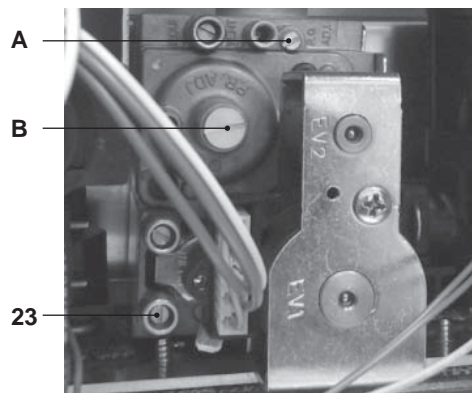

Fig. 7.6
- When the boiler is switched off (out of order), check the supply pressure by using the 23 point in Fig. 7.6 and compare the value read with that reported on the Gas supply pressure table in section "Technical data Activ A 120V" to page 24, section "Technical data Activ A 150V" to page 26, section "Technical data Activ A 200V" to page 28 and section "Technical data Activ A 250V" to page 30.
- Close well the pressure point 23 in Fig. 7.6.